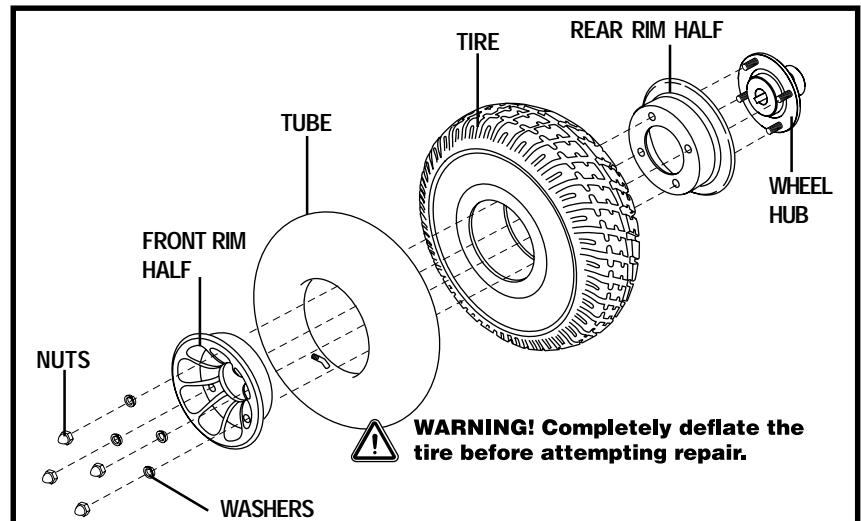

Figure 38. Quantum 610 Drive Wheel Disassembled
6. Remove the nuts and washers from the wheel hub and separate the rim halves. See figure 38.